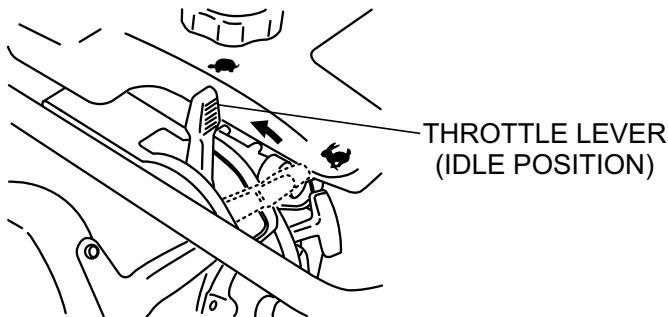
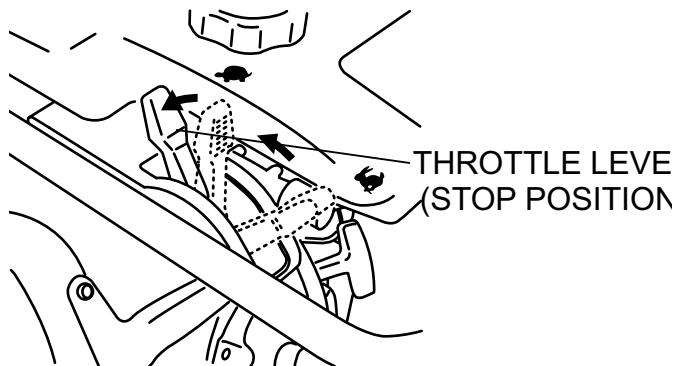

Figure 6. Throttle Lever (Idle Position)
Figure 11. Throttle Lever (Stop Position)
1. Slide the throttle lever from the stop to the idle position (👉) (Figure 6). This opens the fuel cock and the engine electrical circuit is turned on automatically.
3. To stop the tamping action, move throttle lever quickly from **START** to **IDLE** position (Figure 6).
1. Move throttle lever quickly from the **START** to **IDLE** position (Figure 6) and run the engine for three minutes at low speed. After the engine **cools**, move the throttle lever to the **STOP** position (Figure 11). The engine will stop and the fuel cock is automatically closed.